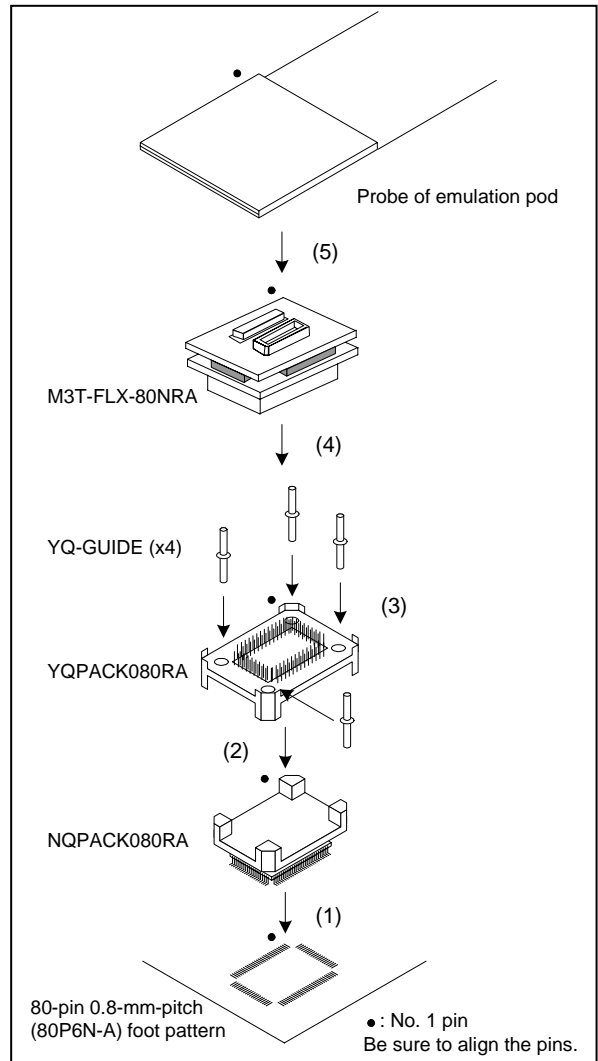

Figure 3 Connection procedure of the M3T-FLX-80NRA
5. Connection Procedure (See Figure 3)